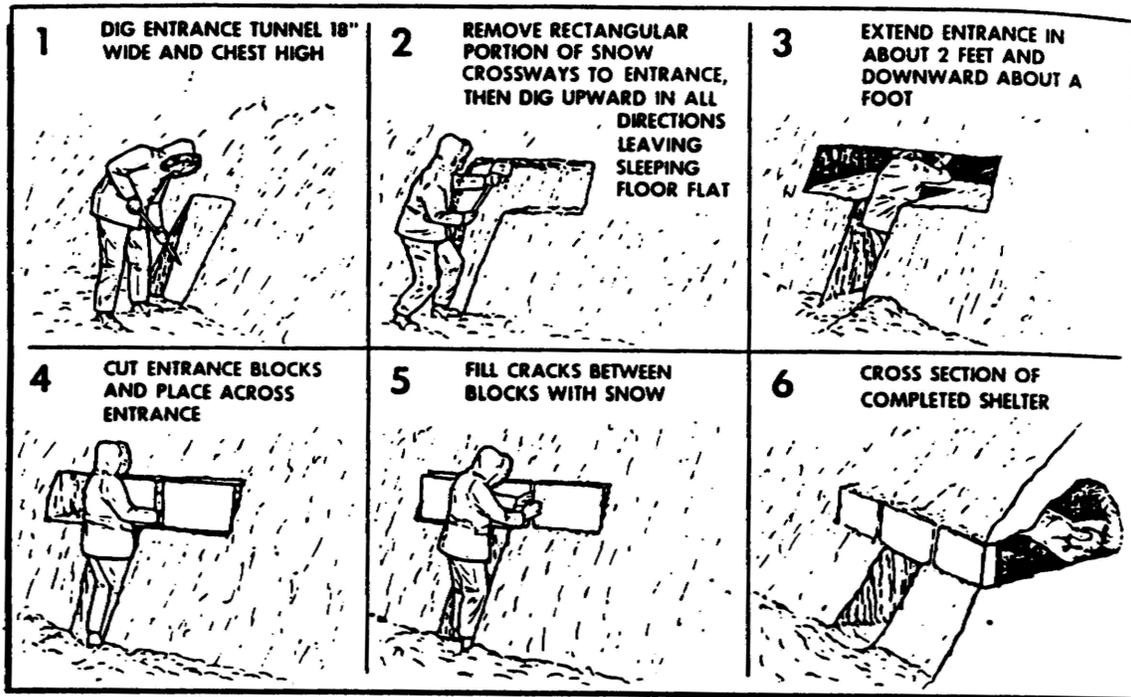
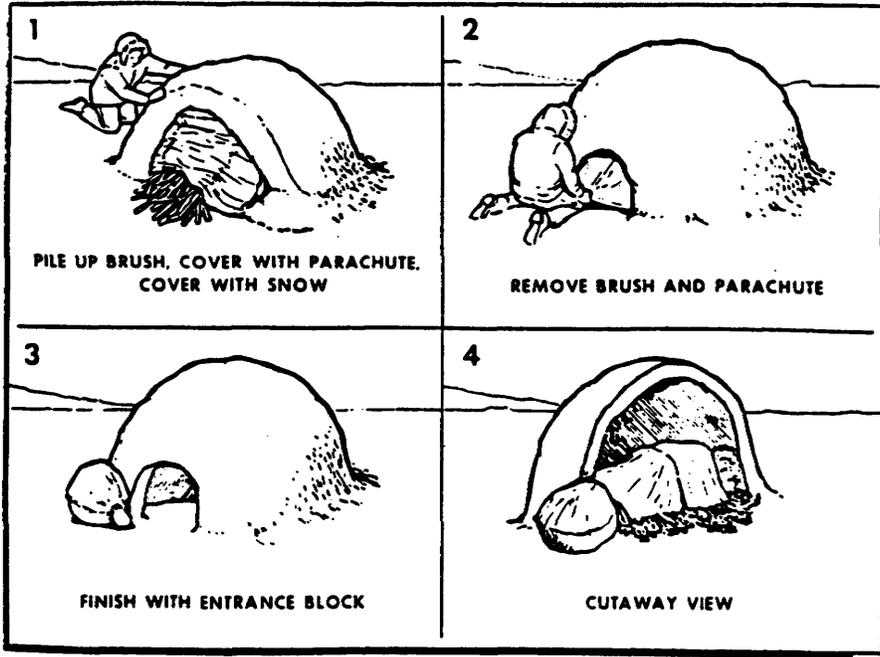

Figure 37. Snow cave.
Figure 38. Molded dome shelter.
(2) Barren lands include some seacoasts, icecaps, sea ice areas, and areas above the tree line. Barren lands, on the other hand, offer a limited variety of materials for shelter construction. These are snow, small shrubs, and grasses. Ridges formed by drifting or wind-packed snow may be used for wind protection (you should build on the lee side). In some areas, such as sea ice, windy conditions usually exist and cause the ice to shift, forming pressure ridges. Avoid these areas of unstable ice and snow at all times. Shelters suitable for barren-type areas include the snow cave (Figure 37), molded dome (Figure 38), fighter trench (Figure 39), and igloo (Figure 40). Those that are quick to construct and require minimum effort and energy are the molded dome, snow cave, and fighter trench. It is important to know which of these shelters is the easiest to build since reducing or eliminating the effect of the windchill factor is essential to remaining alive.